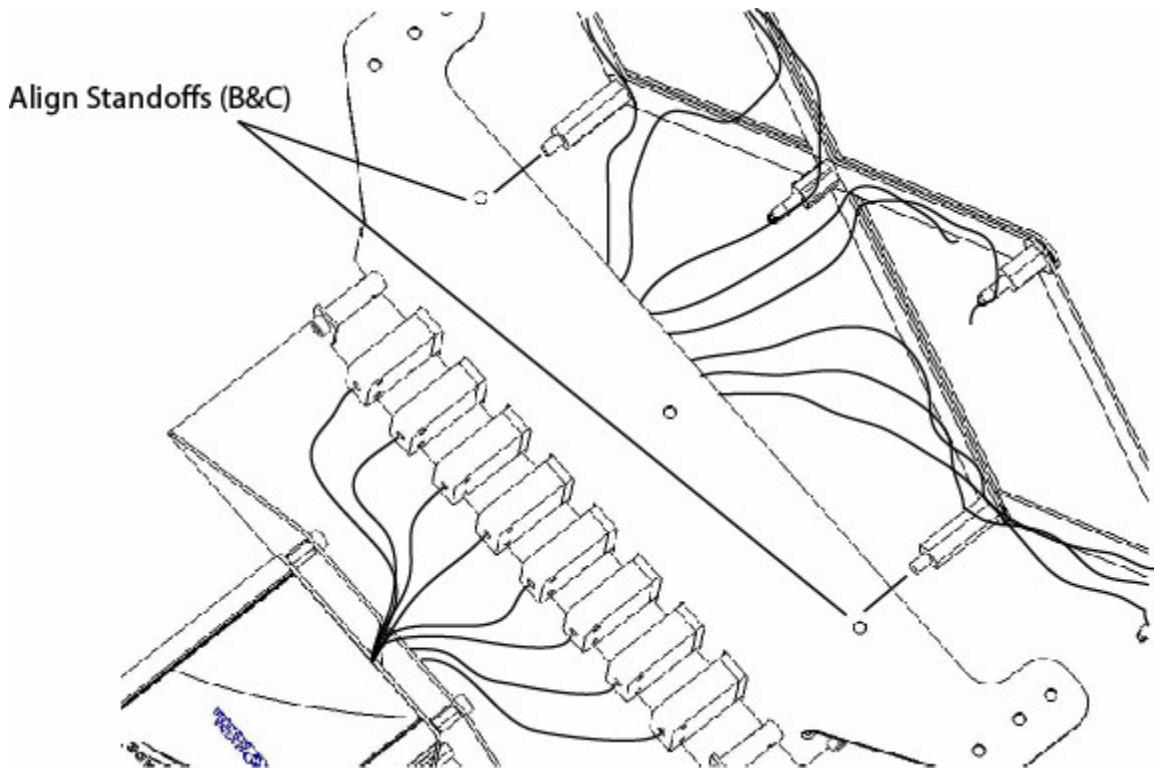

Figure 7. TC-Bridge alignment
5. Pull TC-Bridge spreader mechanism apart until the standoffs (B&C) align with the open holes on the control plate, as shown in Figure 7, for the half-deployed configuration.
3. Rotate the TC-Bridge spreader mechanism such that the standoffs point directly toward the control plate, as shown in Figure 7.